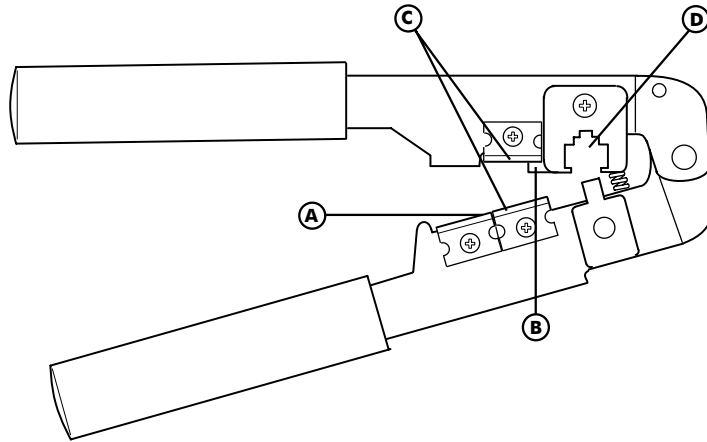

FIGURE 29:
1. Using the cutter blade on the crimping tool (labeled “A” in Figure 29), cut the flat CA Cable so the cut is clean and 90 degrees to the sides of the cable.
2. Fully insert one end of the CA Cable between the stripping blades (labeled “C” in Figure 29) until the end of the cable hits the stop (labeled “B” in Figure 29).
6. Push a RJ-12 Modular Plug into the plug holder on the crimping tool (labeled “D” in Figure 29) until the release tab on the plug locks into position.